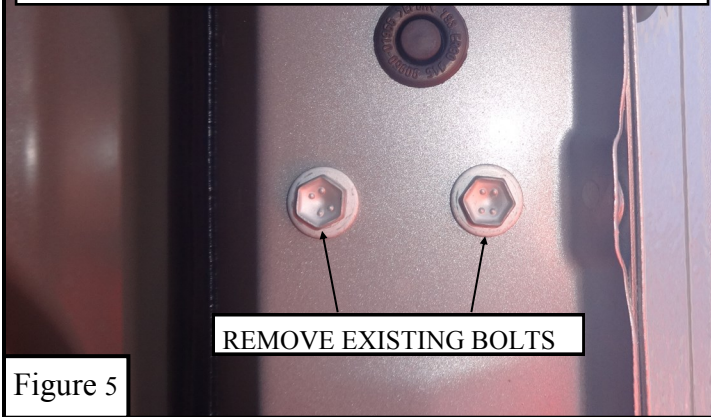

Figure 5
5. Follow steps 3 and 4 to install (1x) mid bracket (Item 4) and (2x) rear brackets (Item 5) **Figures 5 & 6.**
6. Repeat steps 3-5 for the mid and rear mounting brackets. **Figures 5 to 6.**